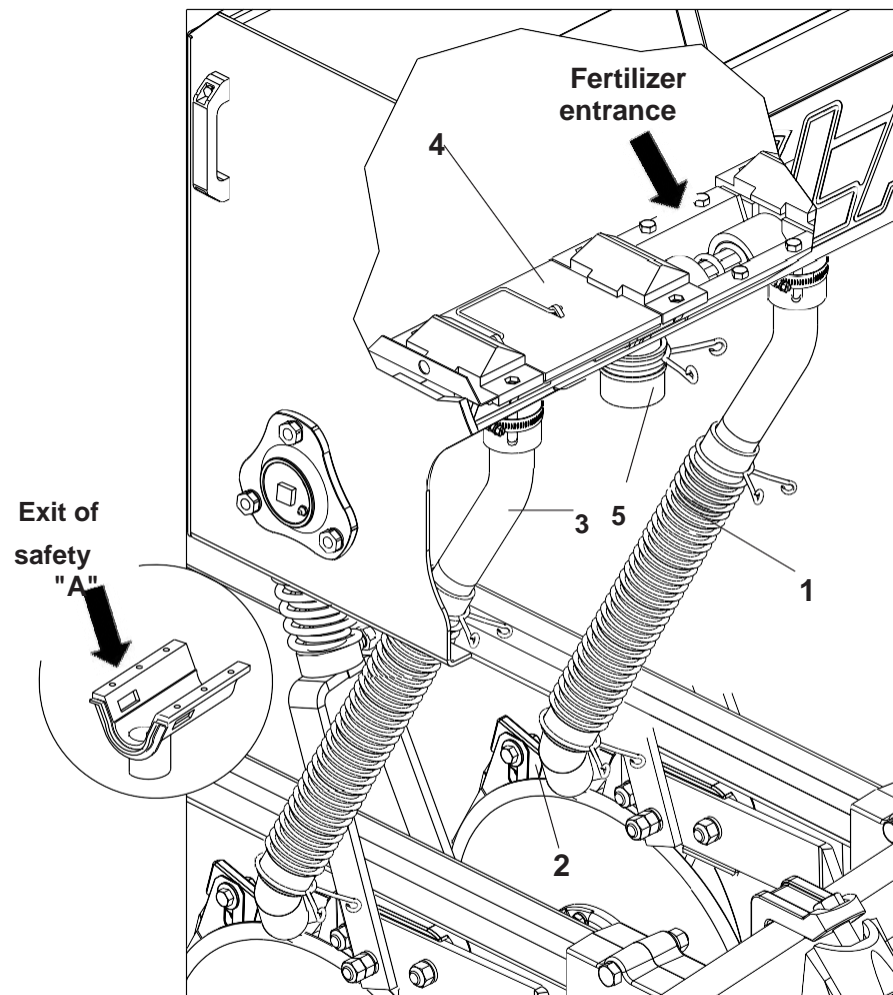

FIGURE 36
FERTILISER DISTRIBUTION SYSTEM METALLIC TANK (FIGURE 36)
2 - When determining the number of lines and the desired spacing, connect the hoses (1) to the fertiliser spout (2), making the connection of hoses that are close to the lines, preventing them from getting folded or bent. For better alignment of the hoses if necessary use the spout with grade (3) according to **FIGURE 36**.